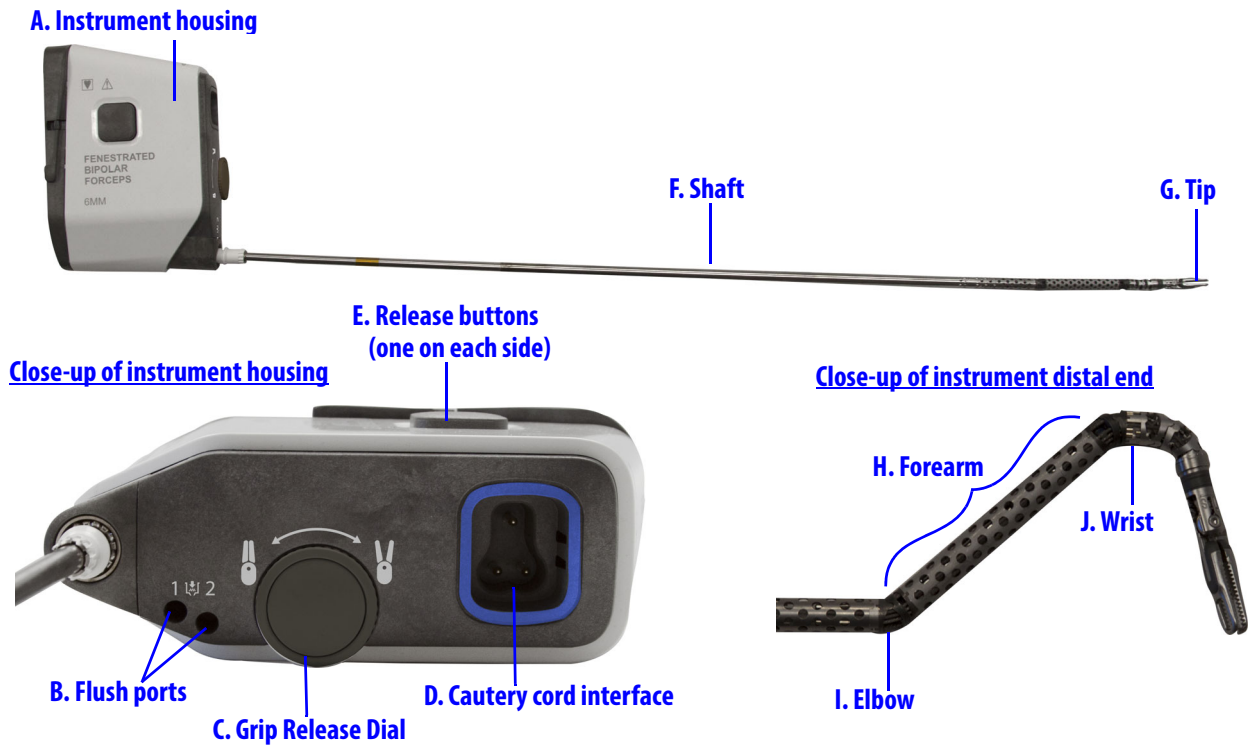

Figure 3.1 EndoWrist SP instrument
- **Instrument housing (Figure 3.1 A):** The instrument housing engages with the instrument sterile adapter and includes:
- **Flush ports (Figure 3.1 B):** The flush ports are used for instrument reprocessing. See the *da Vinci SP Reprocessing Instructions* for cleaning and sterilization instructions.
- **Grip Release Dial (Figure 3.1 C):** The Grip Release Dial is rotated to manually open the instrument tips. For troubleshooting information, see the *da Vinci SP System User Manual*.
- **Cautery cord interface [electrosurgical instruments only] (Figure 3.1 D):** The cautery cord interface is used to connect the Bipolar Cautery Cord or EnergyShield Monopolar Cautery Cord (depending on instrument type).
- **Release buttons (Figure 3.1 E):** The release buttons (located on each side of the housing) are used to release the instrument from the sterile adapter.
- **Shaft (Figure 3.1 F):** The shaft inserts through the EntryGuide™ SP Cannula Insert (also referred to as Entry Guide) and rotates as controlled by the movements of the hand controls. The instrument shafts are 6 mm in diameter and approximately 22 in. (55 cm) in total length.
- **Tip (Figure 3.1 G):** The instrument tip (for example, graspers, cautery hooks, scissor blades).
- **Forearm (Figure 3.1 H):** The distal section of the instrument shaft between the elbow and the wrist.
- **Elbow (Figure 3.1 I):** The articulating elbow offsets the distal shaft (also referred to as the forearm) to enable positioning of the instrument tip and to create space between the instruments deployed inside the body.
- **Wrist (Figure 3.1 J):** The articulating wrist bends to orient the instrument tip.